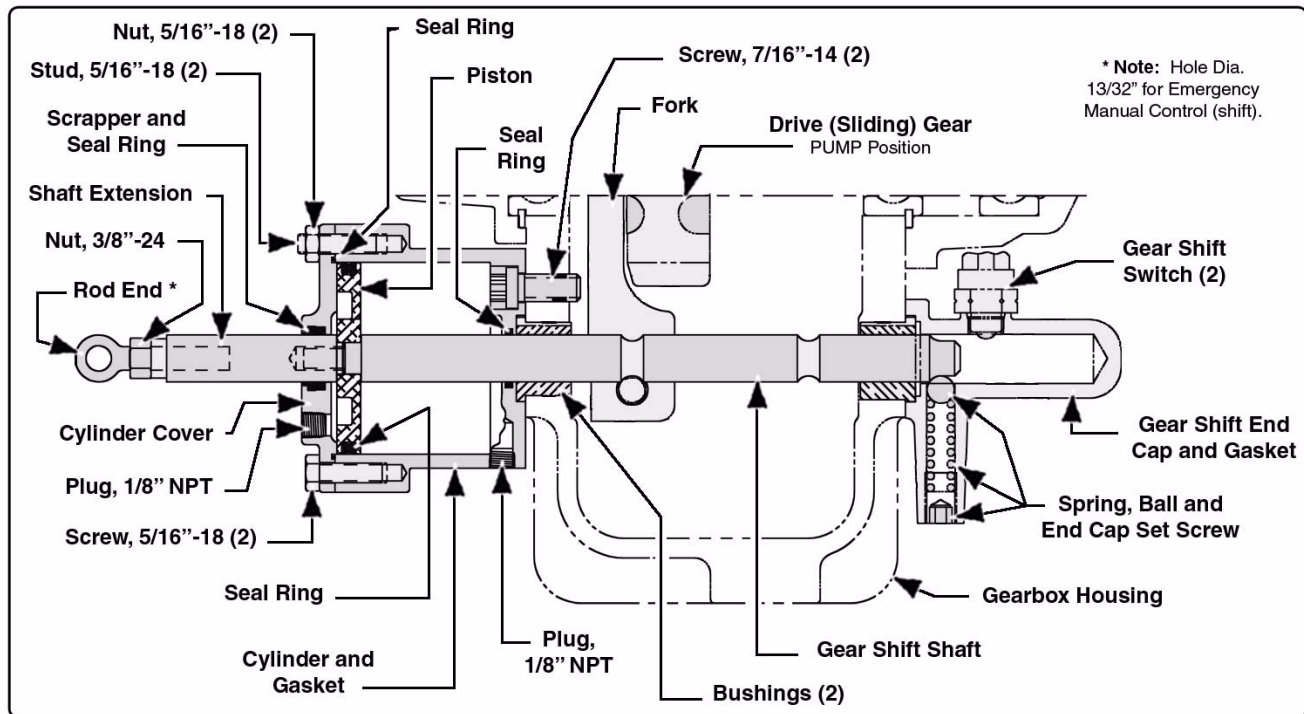

Figure 6d-2: Automatic Power Shift Overview
2. Loosen 3/8"-24 nut and remove rod end and nut. (See Figure 6d-2: "Automatic Power Shift Overview," on page 104.)
4. Remove cylinder cap and seal ring, two 5/16"-18 screws and nuts. (See Figure 6d-2: "Automatic Power Shift Overview.")